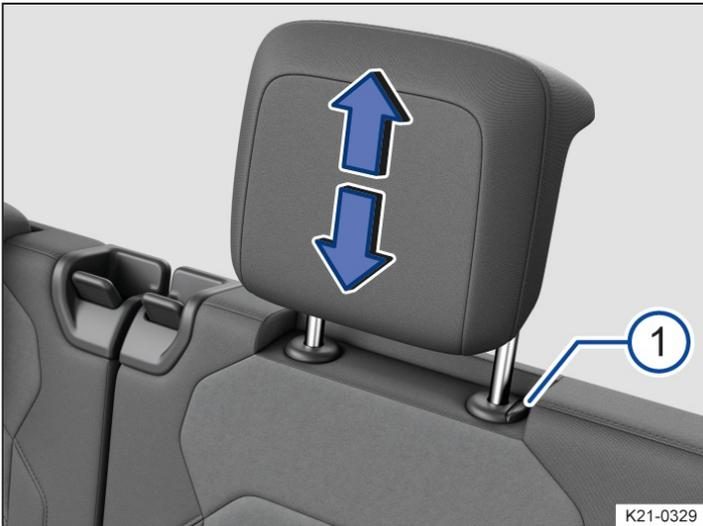
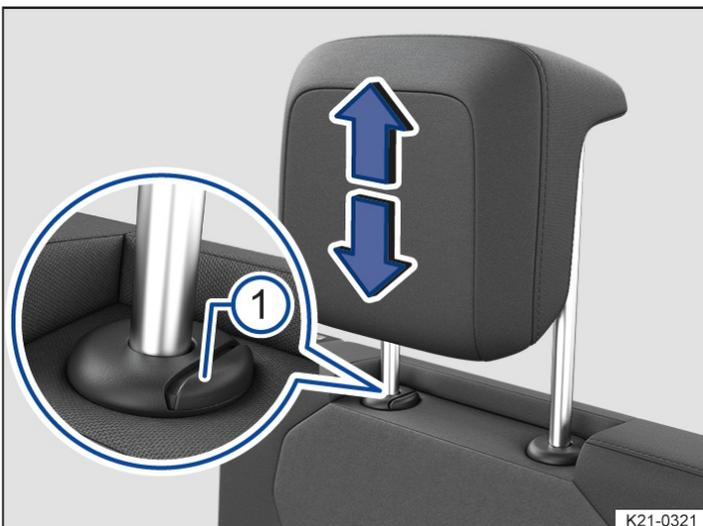

Fig. 2 General example: adjusting the head restraint on the second-row seats.
Fig. 3 General example: adjusting the head restraint on the third-row seats.
1. Slide the head restraint up or down in the direction of the arrow; you may need to press the button → *fig. 1* 1, → *fig. 2* 1 or → *fig. 3* 1 first to release the head restraint.